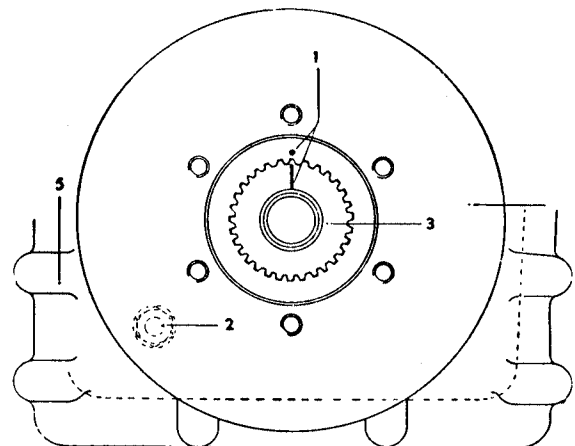

Fig. H.5.
15. Replace the crankshaft pulley, so that the punch mark on the inside face of the pulley is in line with the scribed line on the end face of the crankshaft (Fig. H.5).